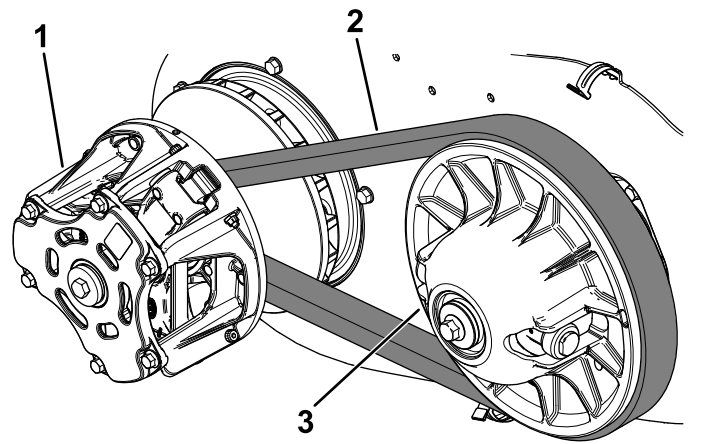

Figure 92
6. Rotate and inspect the belt (Figure 92) for signs of excessive wear or damage.
7. Using compressed air, clean the clutches thoroughly of all debris (Figure 92).
6. Pull up on the top of the belt to spread out the secondary clutch, then rotate and route the belt over the secondary clutch (Figure 92).
7. Remove the belt from the primary clutch (Figure 92).
8. Align the new belt over the primary clutch (Figure 92).
9. Rotate and route the belt over the secondary clutch (Figure 92).